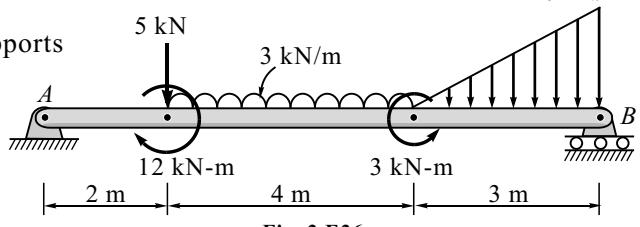

Fig. 3.E36
37. Determine the reactions at all the supports of the beam shown in Fig. 3.E37.